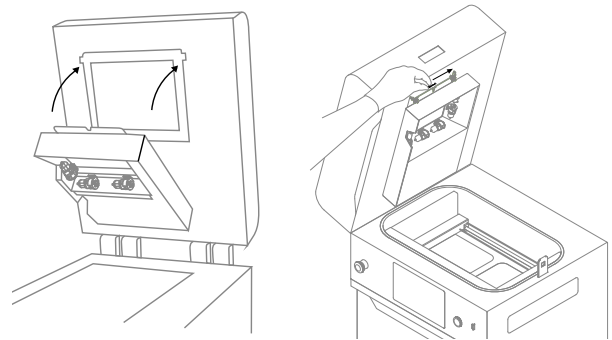

Fig. 13.104 Reinstall the heating module.
16. Lift the heating module (fig. 13.104).
17. Secure the heating module with the captive screw/split pin (fig. 13.104).